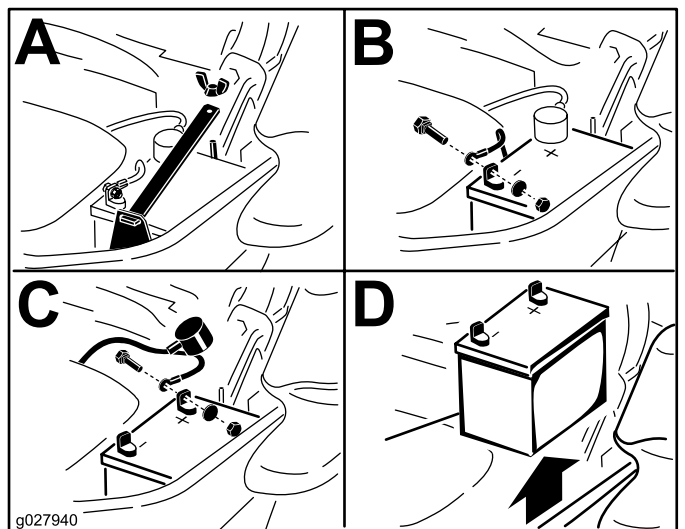

Figure 61
3. Disconnect the negative battery cable (black) from the negative (-) battery terminal (Figure 61).
4. Slide the red terminal boot off the positive (+) battery terminal and remove the positive (red) battery cable (Figure 61).
5. Remove the wing nut securing the battery clamp (Figure 61).
6. Remove the clamp (Figure 61).
7. Remove the battery (Figure 61).
1. Position battery in the tray with the terminal posts opposite from the hydraulic tank (Figure 61).
4. Secure the cables with 2 bolts, 2 washers, and 2 locknuts (Figure 61).
6. Install the clamp and secure it with the wing nut (Figure 61).